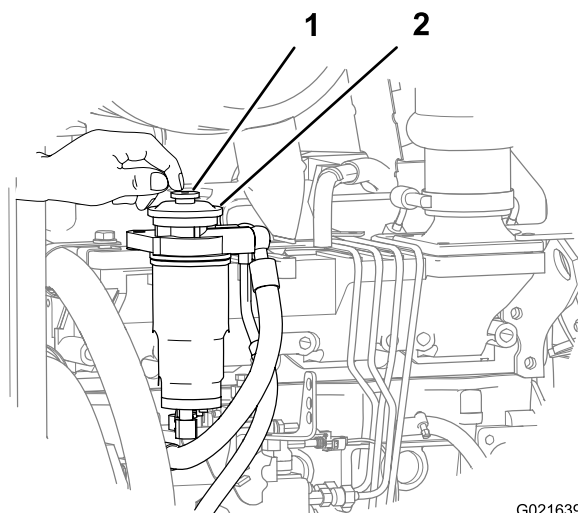

Figure 129
6. Locate the priming button on the top of the filter adapter for the secondary-fuel filter (Figure 129).
7. Press down and release the priming button repeatedly until you feel resistance when pressing the priming button (Figure 129).